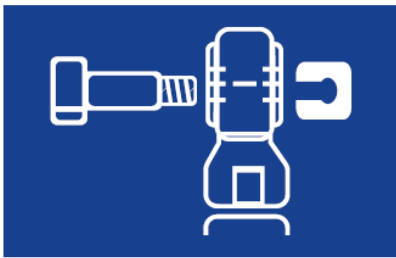

Fig. 4
1. Remove the mounting bolt by unscrewing it (Fig. 4).